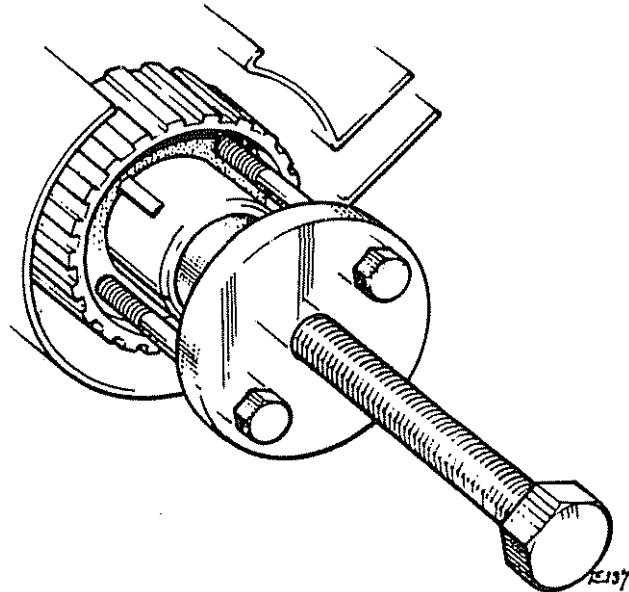

Fig.17 Using Tool '170A' to remove crankshaft sprocket
3. Fit the cylinder head assembly, plain washers and nuts. Tighten all nuts to the specified torque loading working **diagonally** outward from the centre (see figure 17).